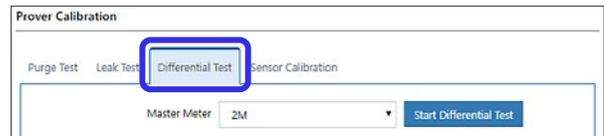

Figure 105: Differential Test tab
3. In the Prover Calibration screen, click the **Differential Test** tab (Figure 105).